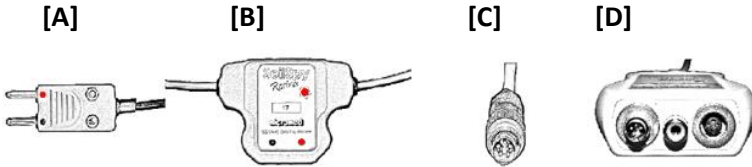
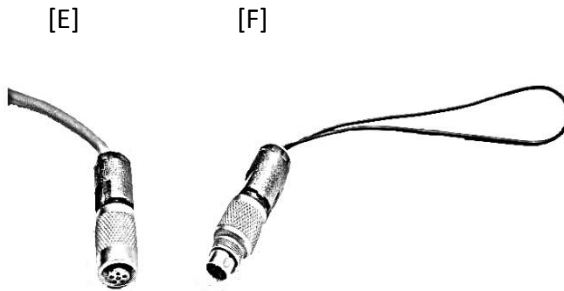
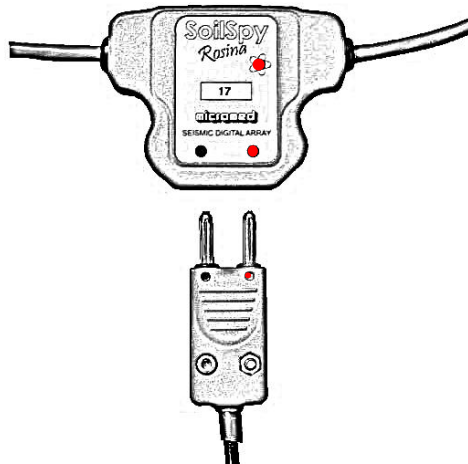

Figure 1. Connectors of **SoilSpy**. [A] geophone connector, [B] amplification-digitization module, [C] **SoilSpy** head connector, [D] USB interface.
Figure 2. **SoilSpy** wire end [E] opposite to the acquisition PC. End of line connector [F].
Figure 4. Connection between a sensor (bottom) and a digitization module (top). Respect polarity: red pin in red socket, black pin in black socket.
SoilSpy is endowed with the following connectors (Figure 1, Figure 2).
With reference to Figure 1 and Figure 2, [A] is to be plugged in [B]. [C] is to be plugged in [D]. [D] is to be plugged to the PC. [F] is to be plugged in [E].
- *USB connector* (not shown in Figure 1): end of the USB interface (Figure 5) to be connected to the PC,
- *Panel connector FB 5P (female)* (element D in Figure 1): to be connected to the head of the array wire (element C in Figure 1),
- *Flying connector FB 5P (male)* (element C in Figure 1): to be connected to:
- the USB interface (element D in Figure 1) or
- to the flying end of another **SoilSpy** system (element E in Figure 2),
- *Flying connector FB 5P (female)* (element E in Figure 2): set at the end of the **SoilSpy** wire, opposite to the PC. It must always be terminated with a flying *FB 5P* male connector (element F in Figure 2) in order to avoid malfunctioning of the system. As an alternative, it can be wired to another **SoilSpy** system,
- *Connector for sensor (female)* (element B in Figure 1): two female connectors $\varnothing$ 4 mm for signal input to be connected to sensors, respecting polarity (red/red, black/black, Figure 4),
- *Connector for digitization module (male)* (element A in Figure 1): two male connectors $\varnothing$ 4 mm for signal input to be connected to digitization modules, respecting polarity (red/red, black/black, Figure 4).
Sensors (usually geophones) must be connected to **SoilSpy** through the digitization modules, respecting polarity (red/red, black/black, Figure 4). Any kind of *passive* sensor can be connected. In case of doubt and to optimize system response consult MoHo s.r.l.
A 20 m long wire is provided with **SoilSpy**, which can be used as an extension for trigger or for 2D array configurations. Insert it between the sensor and the digitization module (Figure 4).
- 2) firmly couple the sensors (geophones) to the soil at the selected interdistance¹ and connect each sensor to the digitization module. Respect polarity (red pin in red socket, black pin in black socket) as shown in Figure 4,